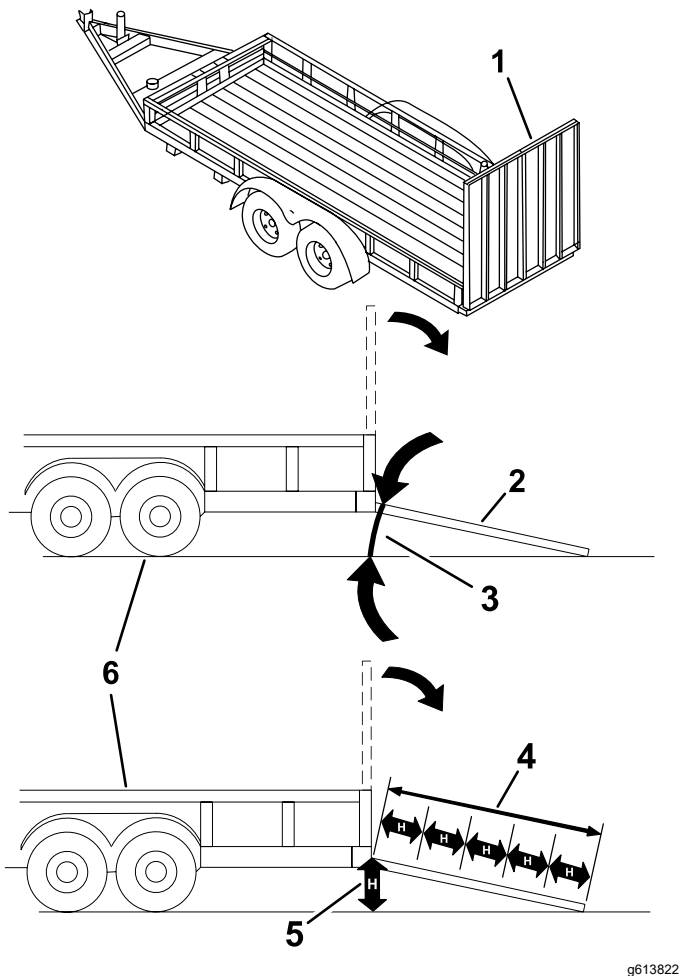

Figure 30
Loading a machine onto a trailer or truck increases the possibility of tip-over and could cause serious injury or death (Figure 30).
3. Lower the ramp (Figure 30).
1. Lower the ramp, ensuring that the angle between the ramp and the ground does not exceed 12 degrees (Figure 30).